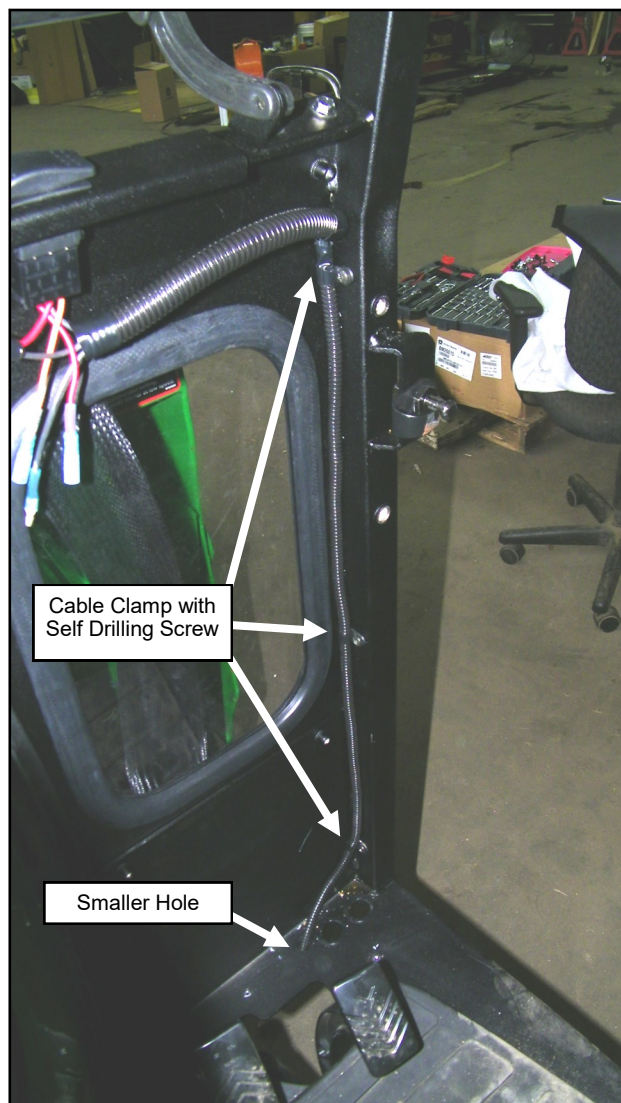

Fig. 15.5 (Secure Wire Harness)
15.5 Thread the wiring harness through the smaller hole in the floor board. See figure 15.5.
15.6 Taking up slack as you work your way down, secure the wiring harness to the A-pillar with p-clips and self-drilling screws. See figure 15.5. Clean up metal shavings afterward.